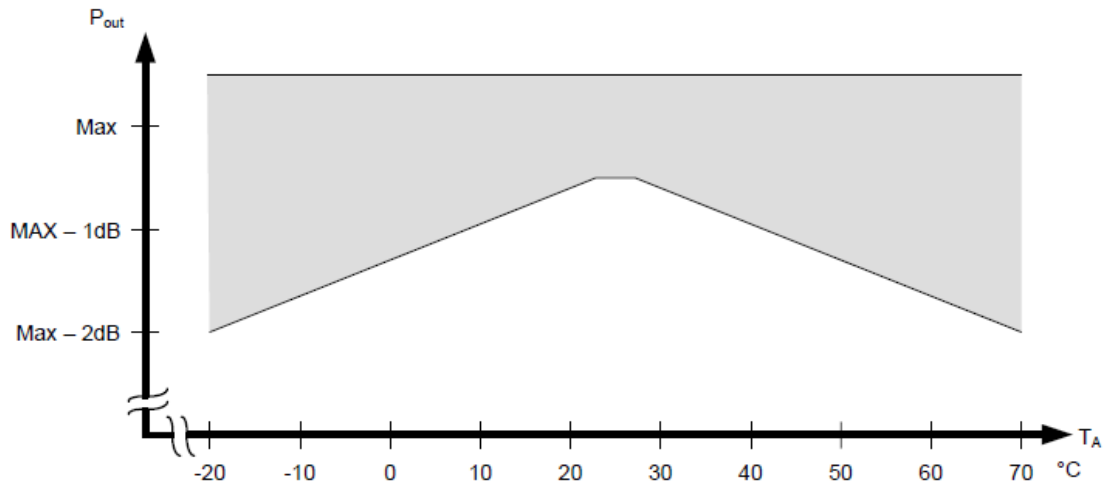

Figure 3-1: P_{out} vs. ambient temperature
- 1) TX output power varies with temperature as shown in Figure 3-1